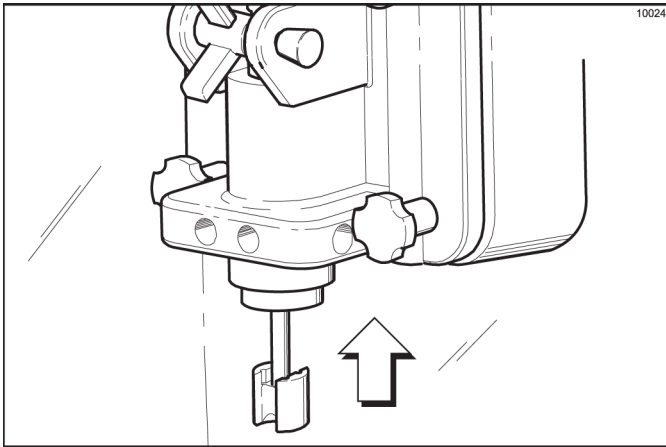

Figure 6-18
17. Insert the spinner blade shaft from the bottom, into the center of the driven spinner, and up through the draw valve cavity until the shaft appears at the top of the draw valve. The spinner blade must be aligned and engaged to the driven spinner at the bottom. This allows the spinner shaft to raise high enough to be engaged into the spinner coupling at the top. (See Figure 6-18.)